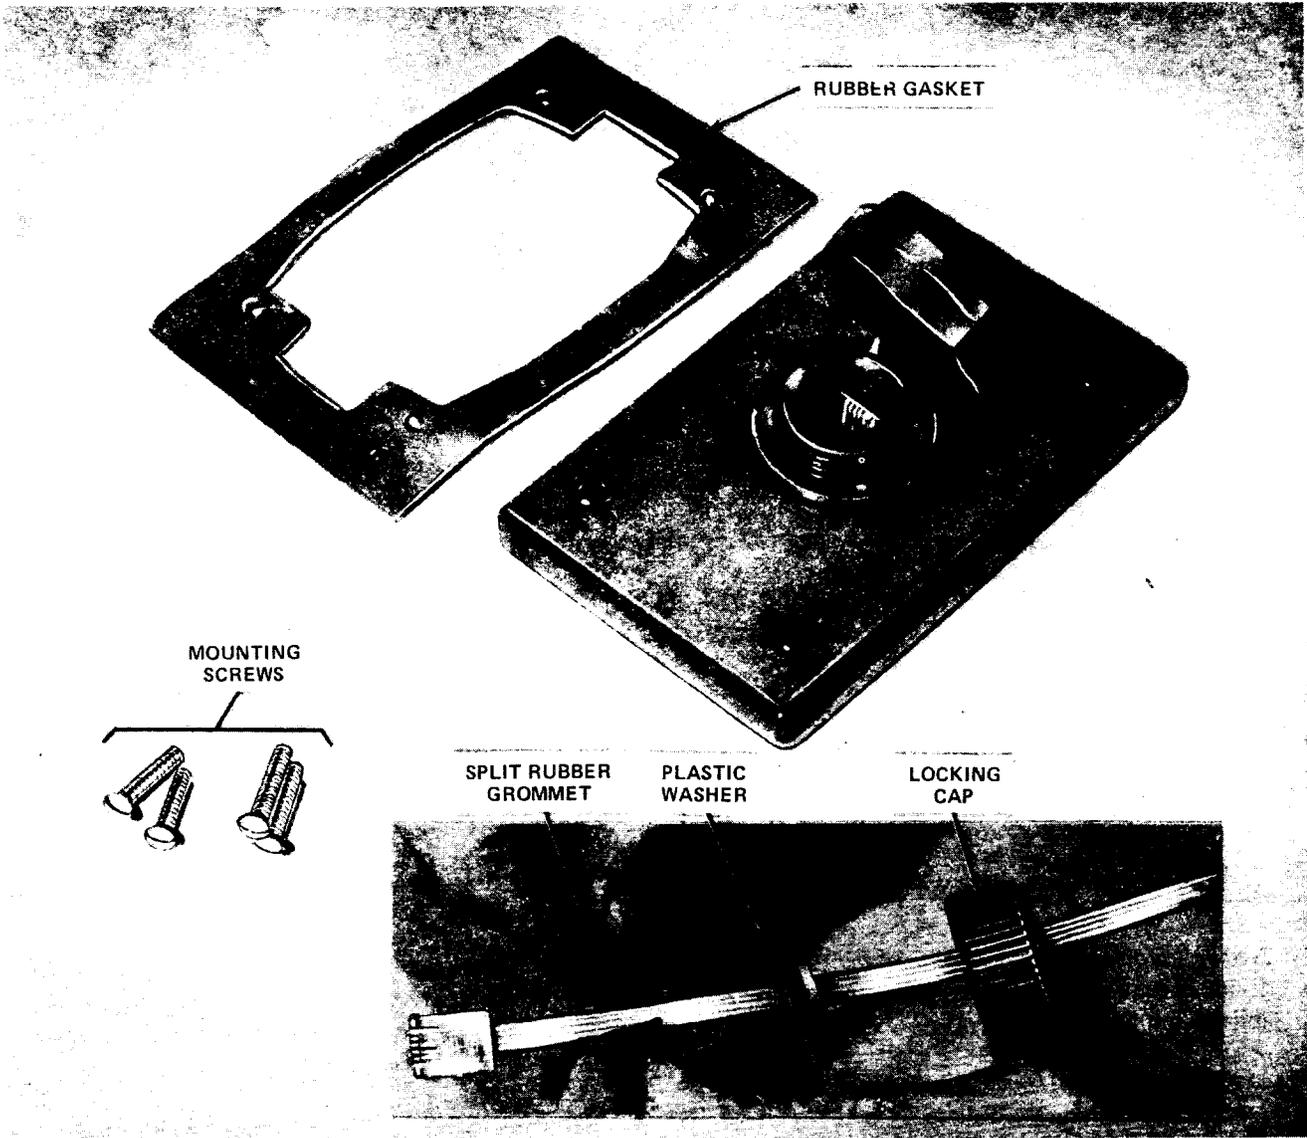

Fig. 15 — 625WP4 Connecting Block
2.16 The 625WP4 connecting block (Fig. 15) is a weatherproof connecting block. It consists of a faceplate, terminal block, grommet, and gasket. It is intended for use outdoors and/or where severe en-
plastic screw-on cap, a plastic washer, and a split rubber grommet to be used on the mounting cord to seal out moisture (Fig. 15).